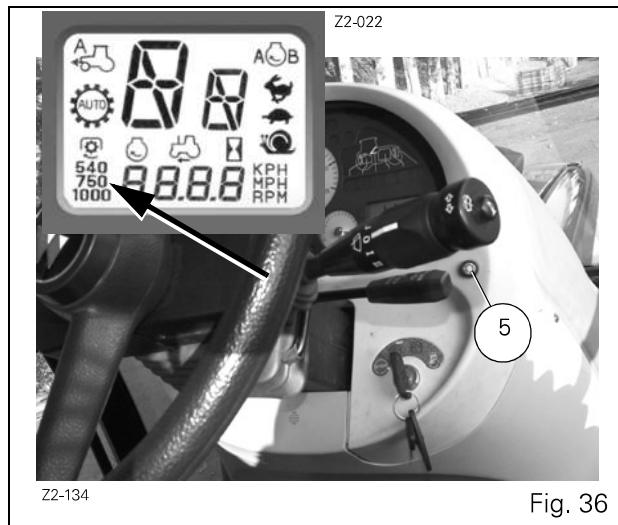

Fig. 36
**CAUTION:** Move the parameter display selector Ref.5, Fig. 36 to the selected PTO speed. PTO must be disengaged during the procedure.
5.12.2 "Twin flow load sensing" Filtering ref. A Fig. 36 .....	5.21